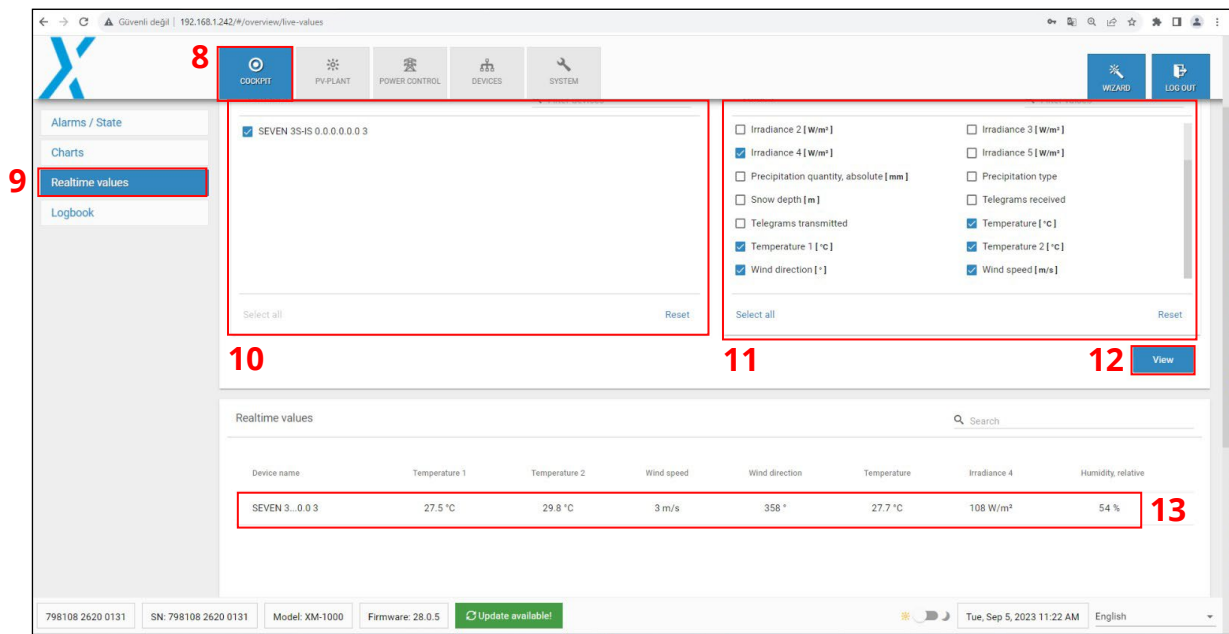

Figure 5: The Data of Seven Sensor Box
**Step 13 :** The data from the sensor will be displayed in the **"Realtime Values"** section as shown in Figure 5.